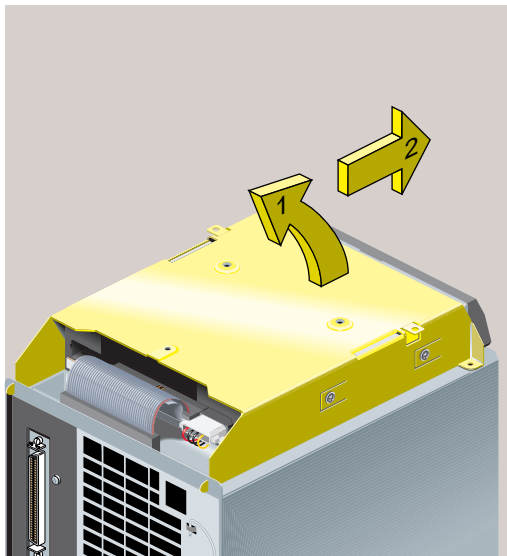

Figure 5-51 Removing the CD-ROM Drive
9. Tilt the CD-ROM drive upward and unhinge it from the chassis. (Figure 5-51).